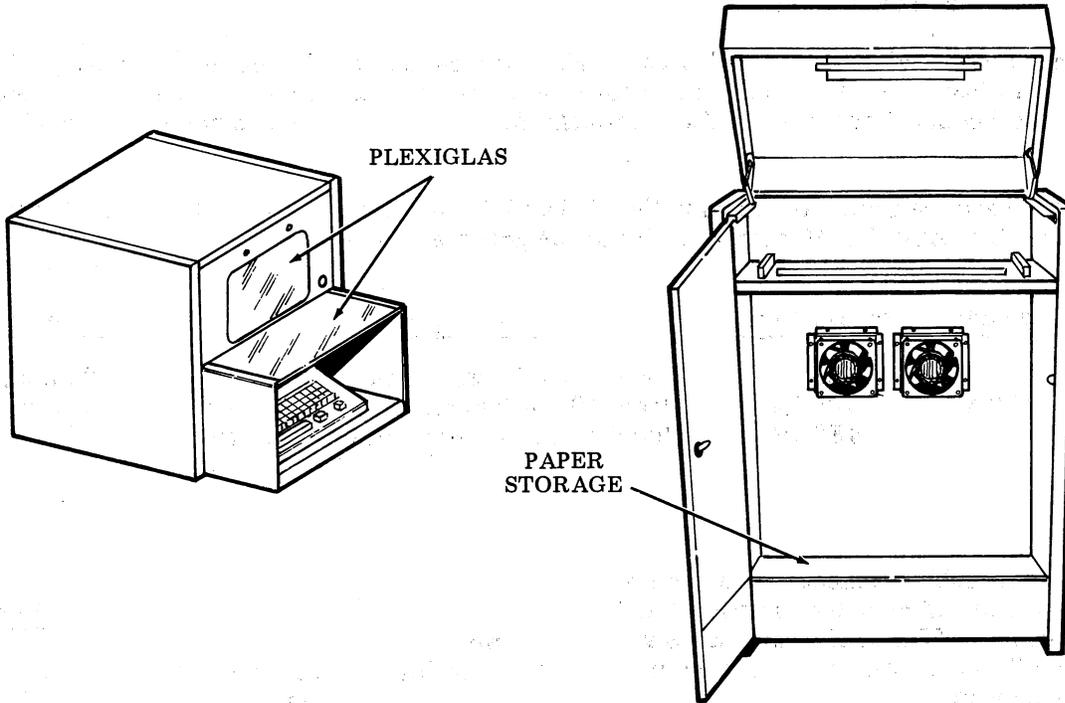

Fig. 12
5.08 Plexiglas panels provide visual access to the monitor and operator console (Fig. 12). Operator access to the opcon is provided through an opening in front of the enclosure. A 5/16 inch hole is provided in the base of the KD enclosure to allow securing the enclosure to the customer-provided support with a 1/4 inch bolt.
5.09 The printer enclosures are floor mounted and provided with paper or form storage in the lower portion (Fig. 12). Printed copy exits the enclosure through a slotted panel which provides a tear-off strip. They are also equipped with locks to prevent tampering or unauthorized access to printer, display monitor, KDA or electrical connections. Customer will assume responsibility for enclosure keys.